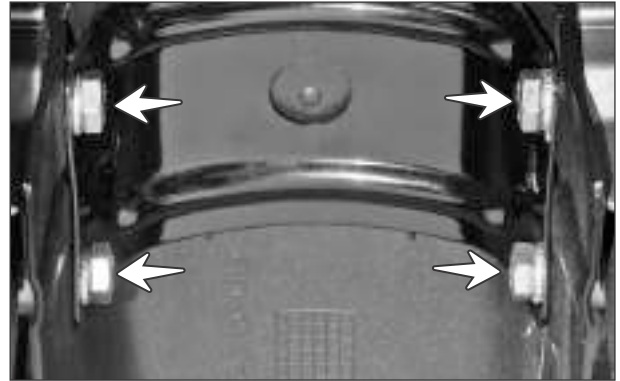

Fig. 6.47
- Remove hexagonal screws (M8x20 - 4 nos.) along with wave spring washer (4 nos) from the fender front mounting. (Fig. 6.47)